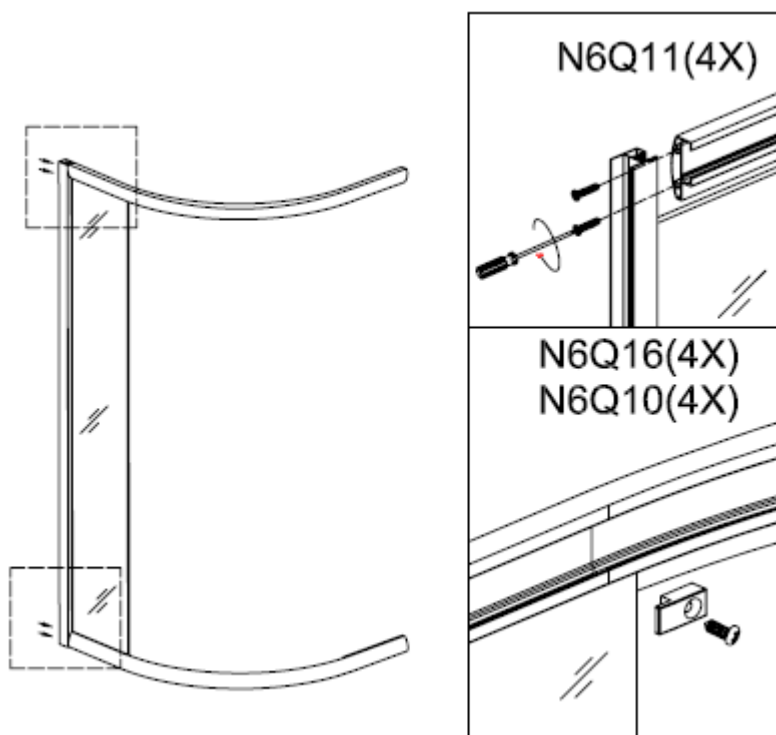

Figure 5
5. Put the fixed panel down to the rail profile(N6Q8) and vertical to the fixed profile(N6Q2),screw by using (N6Q11).Fasten the top and bottom stopper by using (N6Q10) as showed in figure 5.